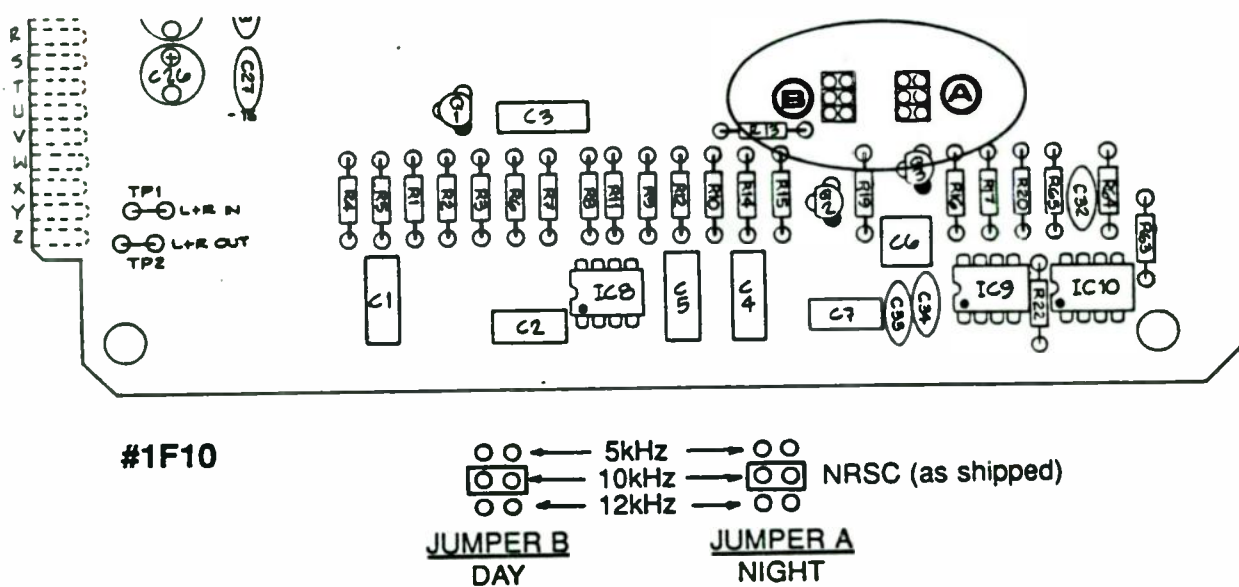

Fig. 4: Low-pass Filter Jumper Positions, Card #1F10
- b) Position jumpers A (night) and B (day) on Card #1F10 to select the desired low-pass filter (see Fig. 4).